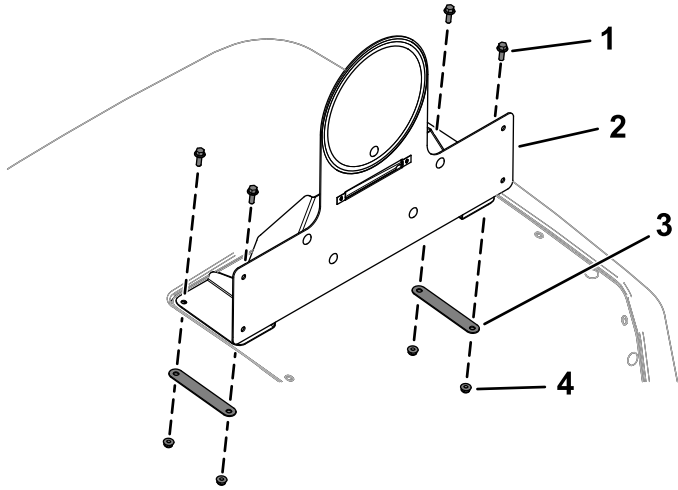

Figure 30
10. Secure the assembled speed-plate mount to the hood using 4 flange-head bolts (1/4 x 3/4 inch), 2 back mounts, and 4 locknuts (1/4 inch) as shown in Figure 30.